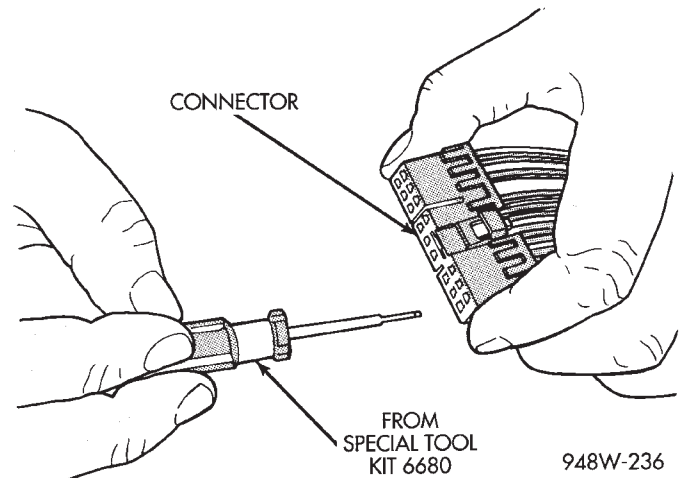
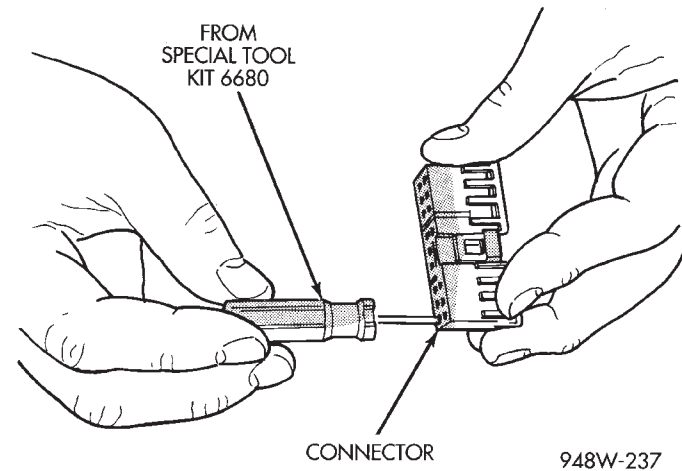

Fig. 16 Terminal Removal
Fig. 17 Terminal Removal Using Special Tool
(4) Position the connector locking finger away from the terminal using the proper pick from special tool kit 6680. Pull on the wire to remove the terminal from the connector (Fig. 16) (Fig. 17).
(5) Reset the terminal locking tang, if it has one.
(6) Insert the removed wire in the same cavity on the repair connector.
(7) Repeat steps four through six for each wire in the connector, being sure that all wires are inserted into the proper cavities. For additional connector pin-out identification, refer to the wiring diagrams.
(8) Insert the connector locking wedge into the repaired connector, if required.
(9) Connect connector to its mating half/component.
(10) Connect battery and test all affected systems.